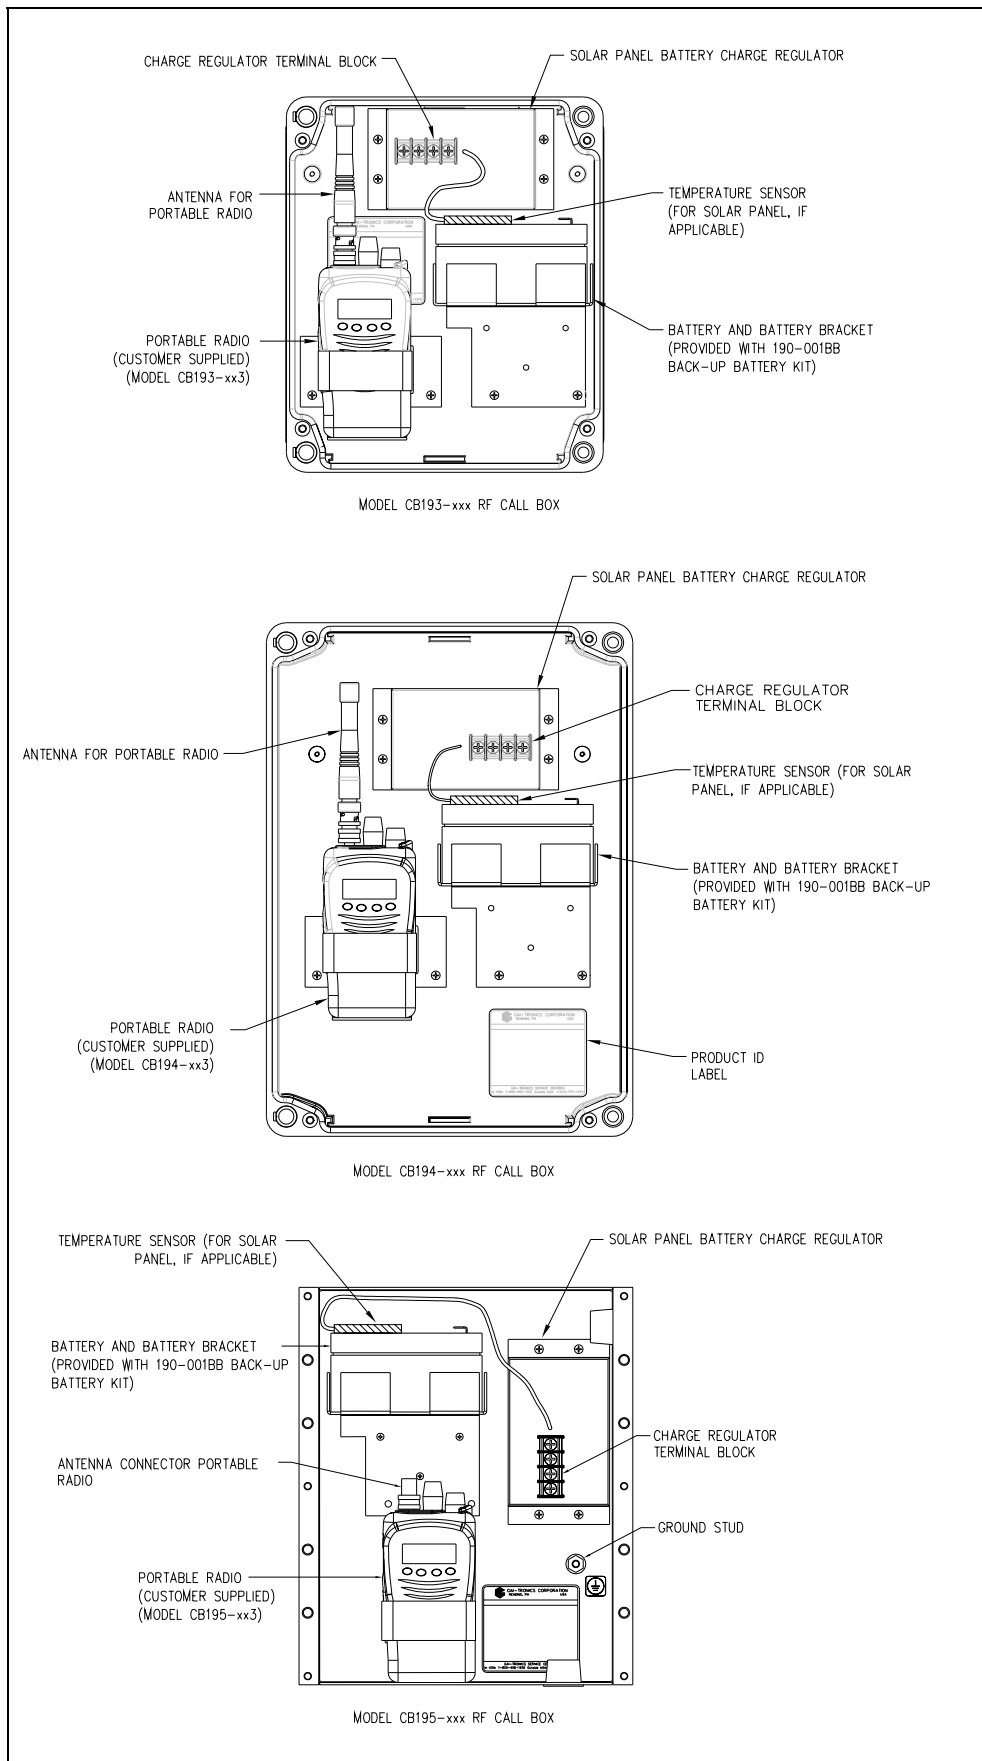

Figure 2. Solar Panel Component Locations within the RF Call Boxes
1. Install the charge regulator module into the rear of the enclosure using the #6-32 × 0.250-inch screws and mounting plate provided. Refer to Figure 2 for the location of the charge regulator on each of the RF Call Box models. The charge regulator can be mounted directly to the back box for Model CB195-xxx. For Models CB193-xxx and CB194-xxx, use the supplied mounting plate to attach the charge regulator.
2. Install the temperature sensor from the regulator module to the top of the battery using the adhesive-backed foam provided. See Figure 2 for the location within the appropriate call box model.